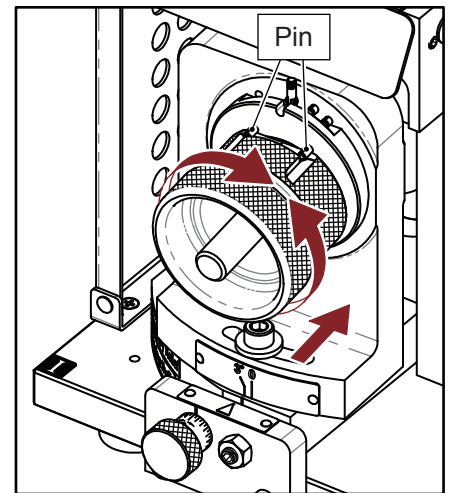

Fig. 8-1
#### 1. 2 Flute Secondary Relief Grinding (I) (Fig. 8-1)
- ① Insert the Chuck set into Shelf (I), align Slot No.1 of the clamping nut with the two pins on the shelf, gently push the Chuck set and turn it clockwise and counterclockwise until the grinding noise stops.
- ② Take the Chuck set out, turn it to grind the Slot No.2 in the same way.